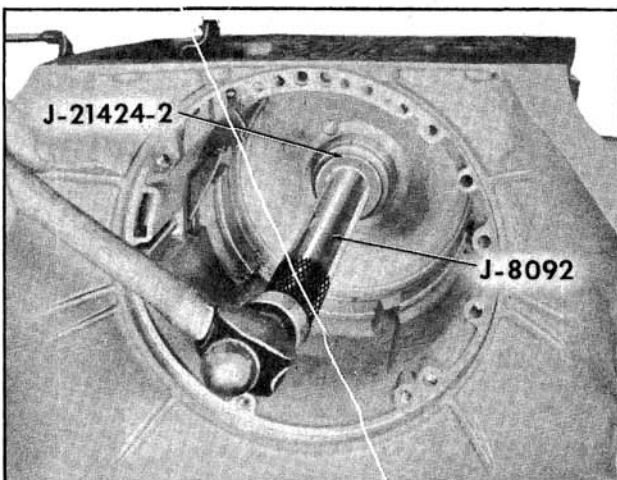

Fig. 6-394 Installing Case Bushing
2. Install case bushing. (Fig. 6-394)